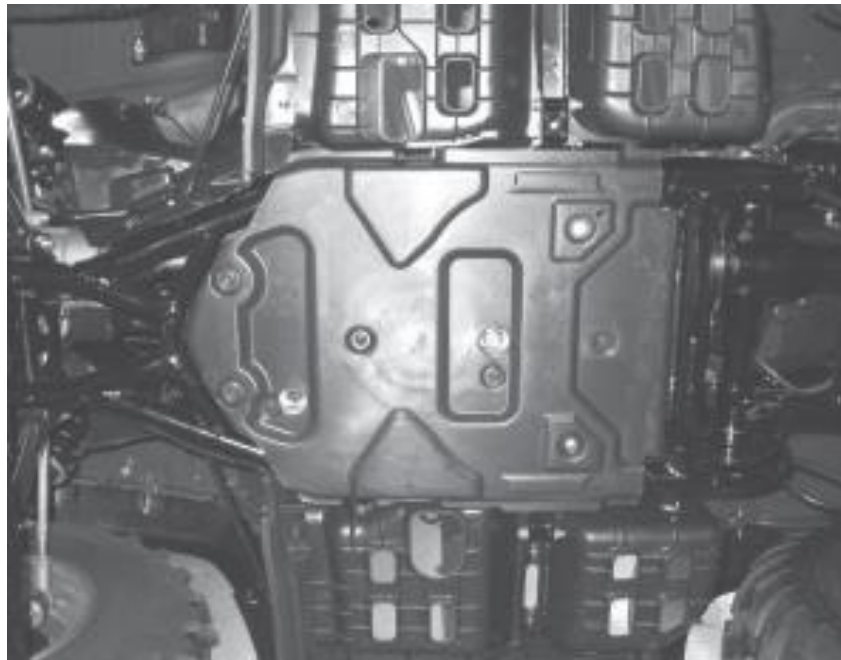

Figure 1
1. Remove the four skid plate bolts, and remove the skid plate from the ATV, Figure 1.